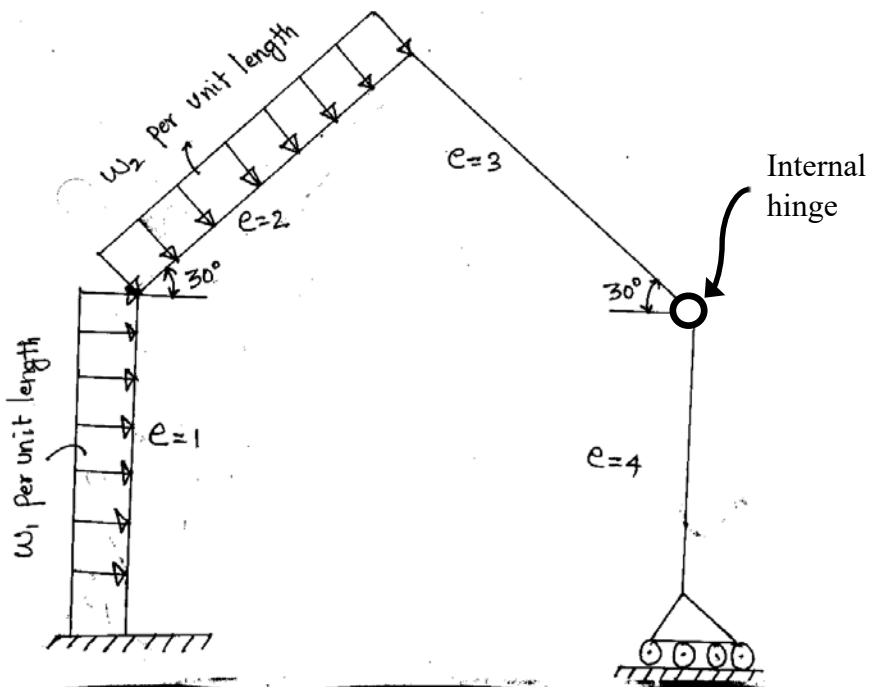

Figure 6.1
6. Model and analyze the frames shown in Figures 6.1 and 6.2 using four frame elements, to find: (a) Nodal displacements, (b) Support reactions, (c) Axial force, shear force, and bending moment diagrams of all members.